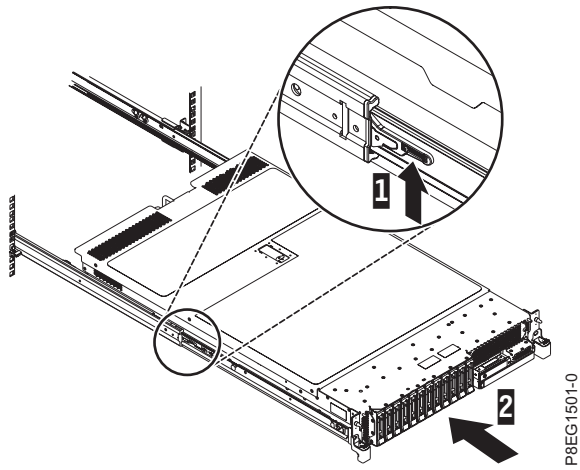

Figure 8. Lift the release latches and push the server into the rack
3. Lift the blue release latches (1) on the slide rails and push the server (2) all the way into the rack until it clicks into place. For details, see Figure 8 on page 7.